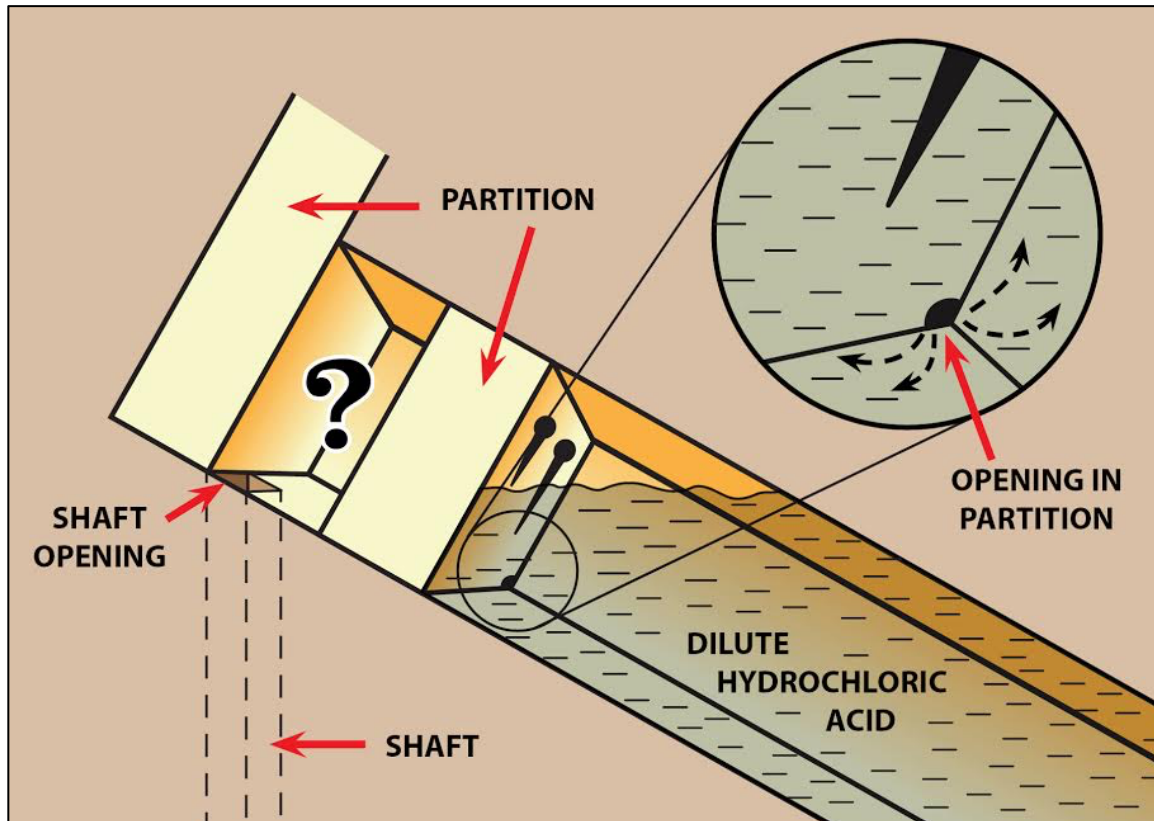

Figure 19: Queens Chamber Southern Shaft Elements
So, what are the potential implications of the recent discoveries in the Southern and Northern Shafts that are plainly visible in Figures 17 and 18? While explanations by the secular archaeological community and Egyptian Egyptologists are ambiguous at best, the visible configurations of the Queens Chamber Southern and Northern Shafts appears to support the premise that these shafts were used to supply chemicals to the Queens Chamber to produce hydrogen gas. To underscore that premise, refer to Figure 19 and let's take a closer look at the upper portion of the Queens Chamber Southern Shaft as it has received the most investigative scrutiny and appears to resemble a simple *fluid switch*:²³
be able to resupply the necessary chemicals? On pages 31-32 we discussed the discovery of a small opening to a vertical shaft and red symbols/corrugated line/object behind Gantenbrink's Door that was discovered by the Djedi Rover. Although these items can be the final missing links to this mysterious puzzle (*hence the question mark between the stone partitions in Figure 19*), their validity is dependent on future discoveries which to date, have been suspended.
- Figure 19. Paul Bunch